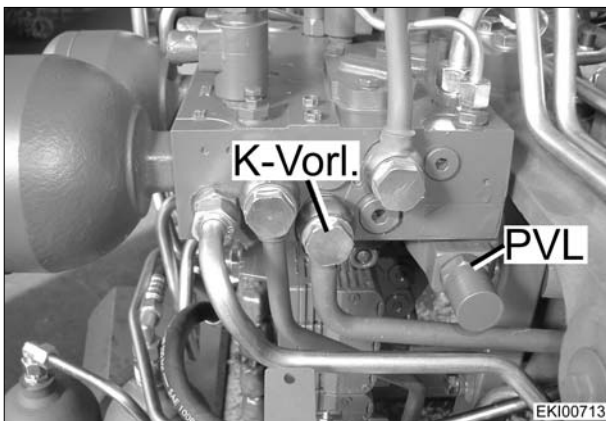

Fig. 1
- All the main control components are now flange-mounted on the central control block ZSB (e.g. priority valve, see Fig. 1) or incorporated internally.